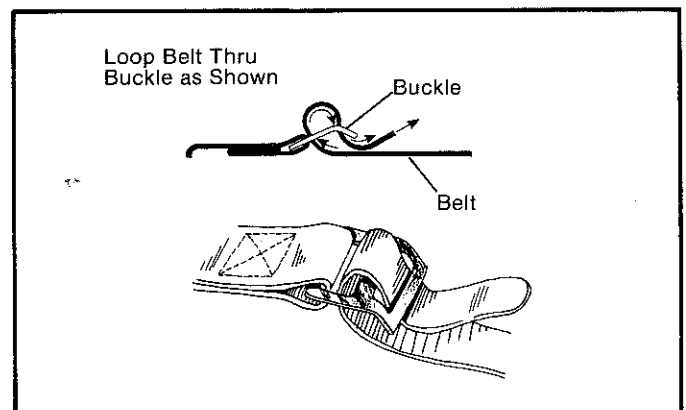

Figure 3-15
3. Prepare three Restraint Belts to secure patient or resident (see Figure 3-15).